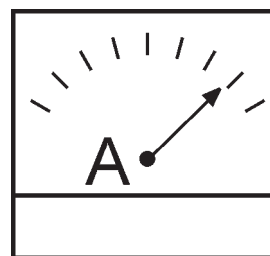

Figure 30. Ammeter (Load)
10. Observe the generator's ammeter (Figure 30) and verify it reads the anticipated amount of current with respect to the load. The ammeter will only display a current reading if a load is in use.